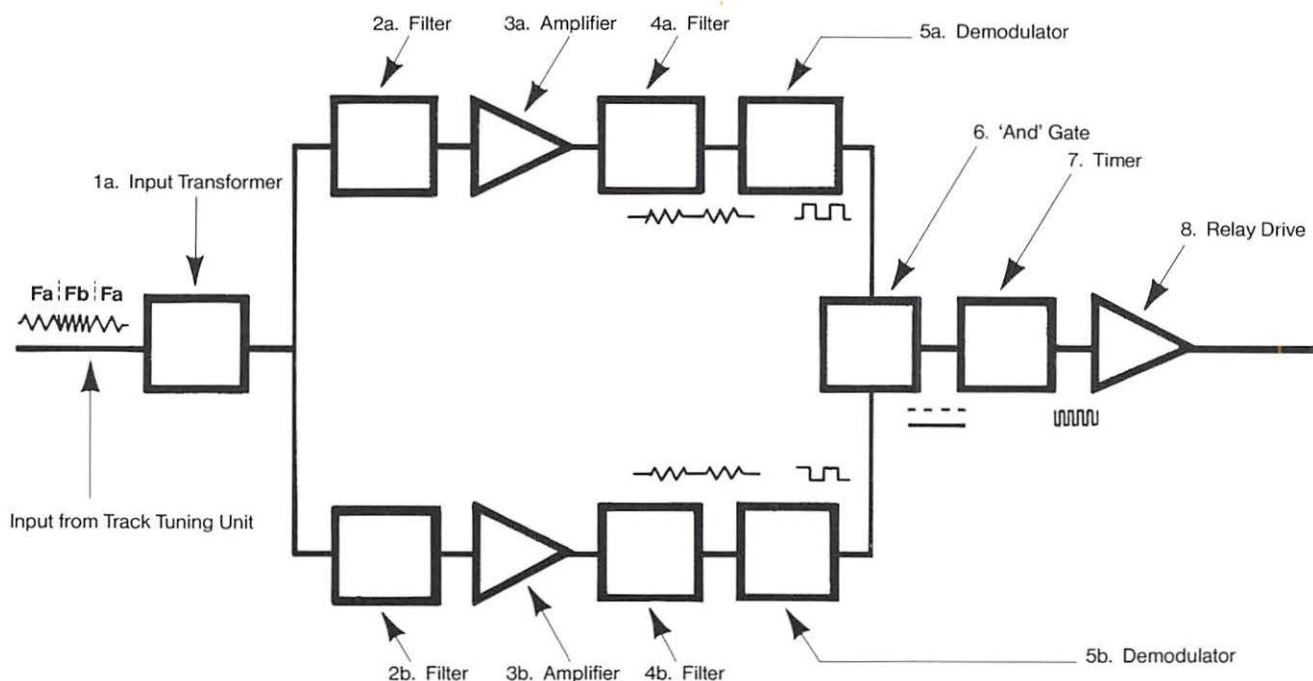

Fig. 4 — Receiver Block Diagram
A block diagram of the receiver is shown in Fig. 4. The signal from the track tuning unit is fed to the input transformer (1) which is used to isolate the receiver circuit from the track, and to pre-set the receiver gain. Protection from the effects of common mode interference is provided by means of an interwinding earth screen.